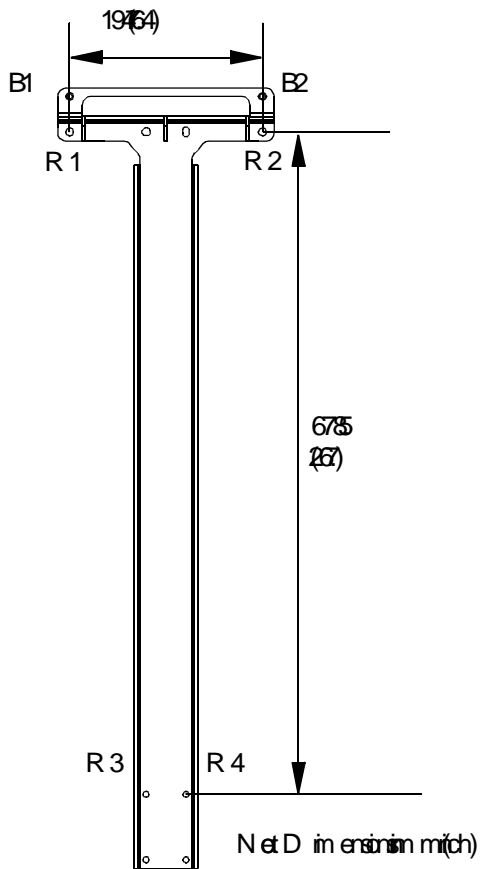

Figure 3 Main unit frame
2. Mark the fixing points on the wall using the anchor screw hole R3 and R4 in Figure 3 on the mounting frame.
5. Position the U-plate (refer to Figure 3) onto the second lower holes (R3 and R4). Make sure the U-plate is in the correct position. The larger holes on the U-plate must be facing downwards as per Figure 3.